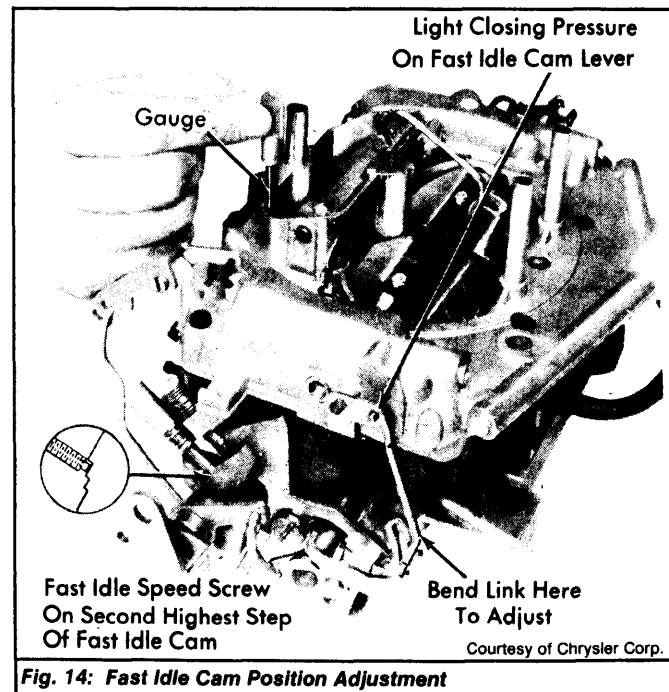

Fig. 14: Fast Idle Cam Position Adjustment
1) Position fast idle speed screw on second step of fast idle cam. Close choke valve by applying light closing pressure on fast idle lever. See Fig. 14.